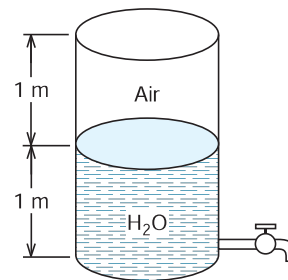

FIGURE P6.127
- 6.127** A 2-m-tall cylinder has a small hole in the bottom as in Fig. P6.127. It is filled with liquid water 1 m high, on top of which is a 1-m-high air column at atmospheric pressure of 100 kPa. As the liquid water near the hole has a higher P than 100 kPa, it runs out. Assume a slow process with constant T . Will the flow ever stop? When?